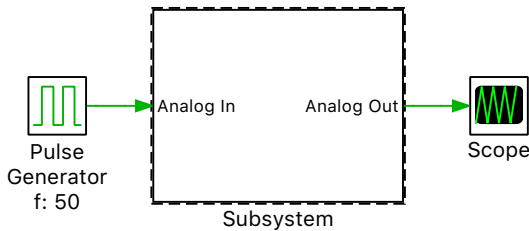

Figure 9: Subsystem in CodeGen mode with a dashed bold border
- 5** Right-click the Subsystem and select the **Subsystem + Simulation mode + CodeGen** option. Once you select the CodeGen mode the subsystem border will change to a dashed bold line as shown in Figure 9. When in CodeGen mode, PLECS uses the discretized C code representing that subsystem. Scopes within the discretized subsystem will not update, but Scopes external to the subsystem will.